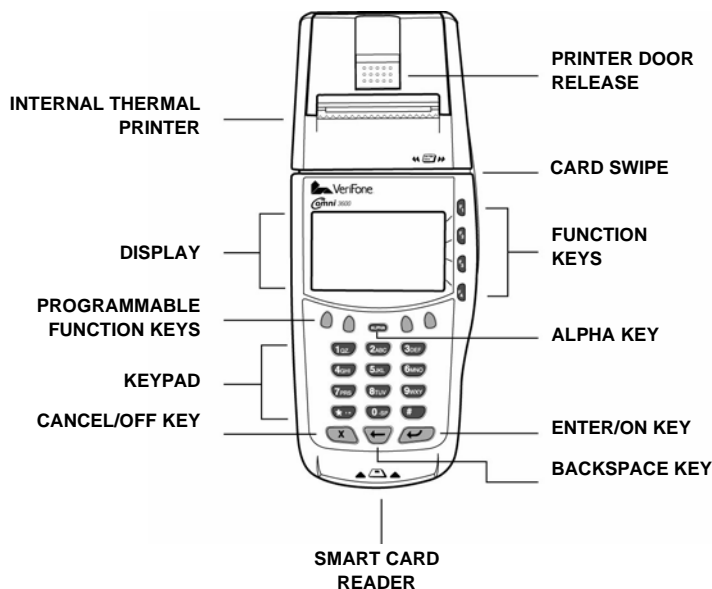

Figure 2 Omni 3600 Terminal Features
Figure 2 illustrates the physical features of the Omni 3600 terminal.
Notice the following features of the Omni 3600 terminal shown in Figure 2:
- 1 Turn on the terminal by pressing the green enter key (see Figure 2, page 10).